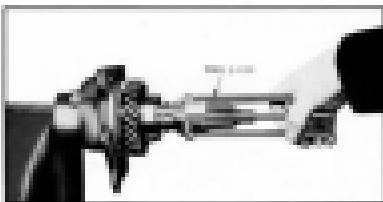

Fig. 548. Removing Second Speed Gear Snap Ring
2. Remove second speed gear snap ring, using Tool J-1130. (See Fig. 548)